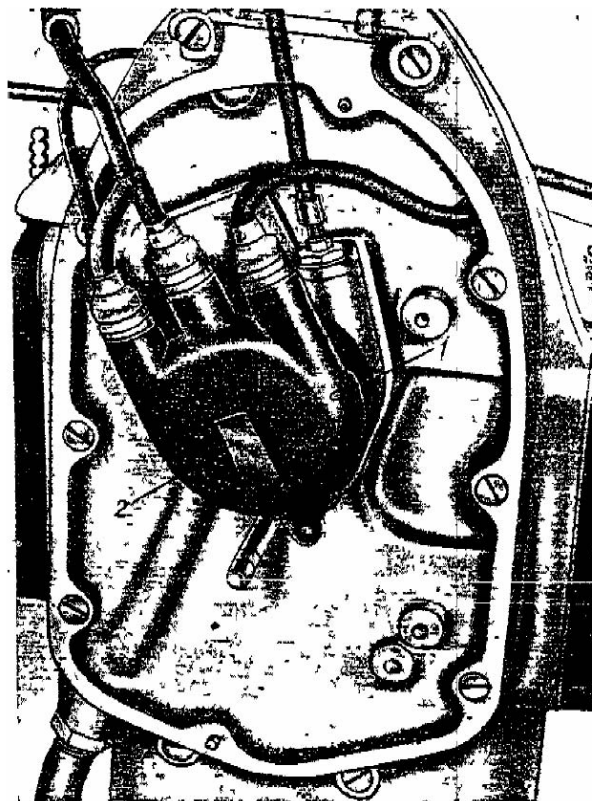
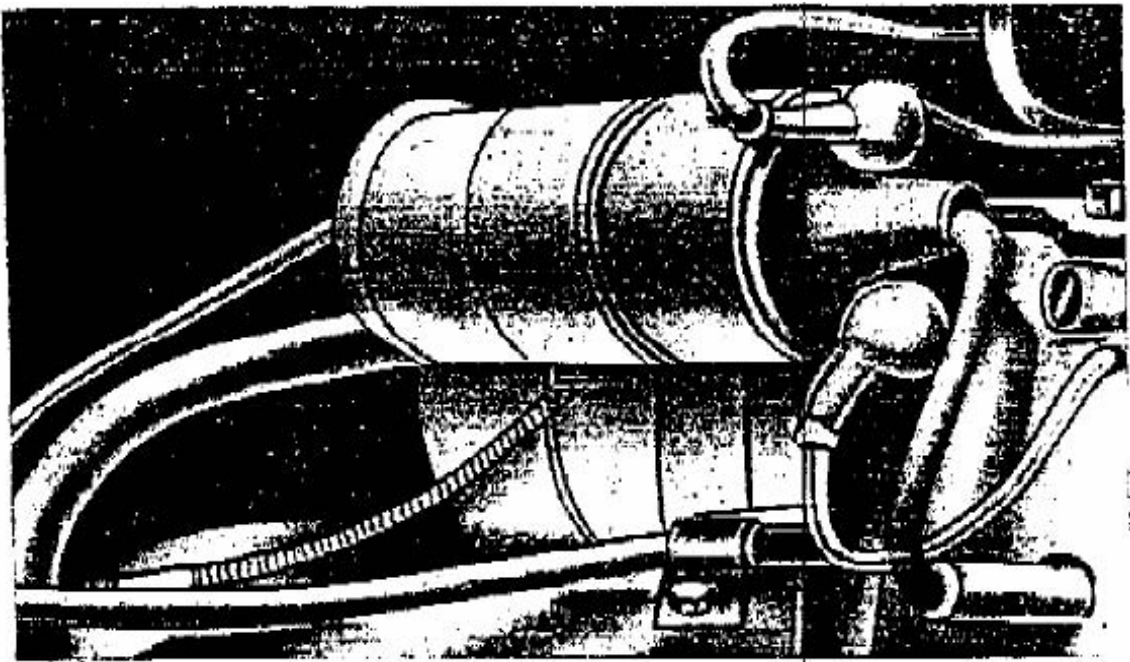
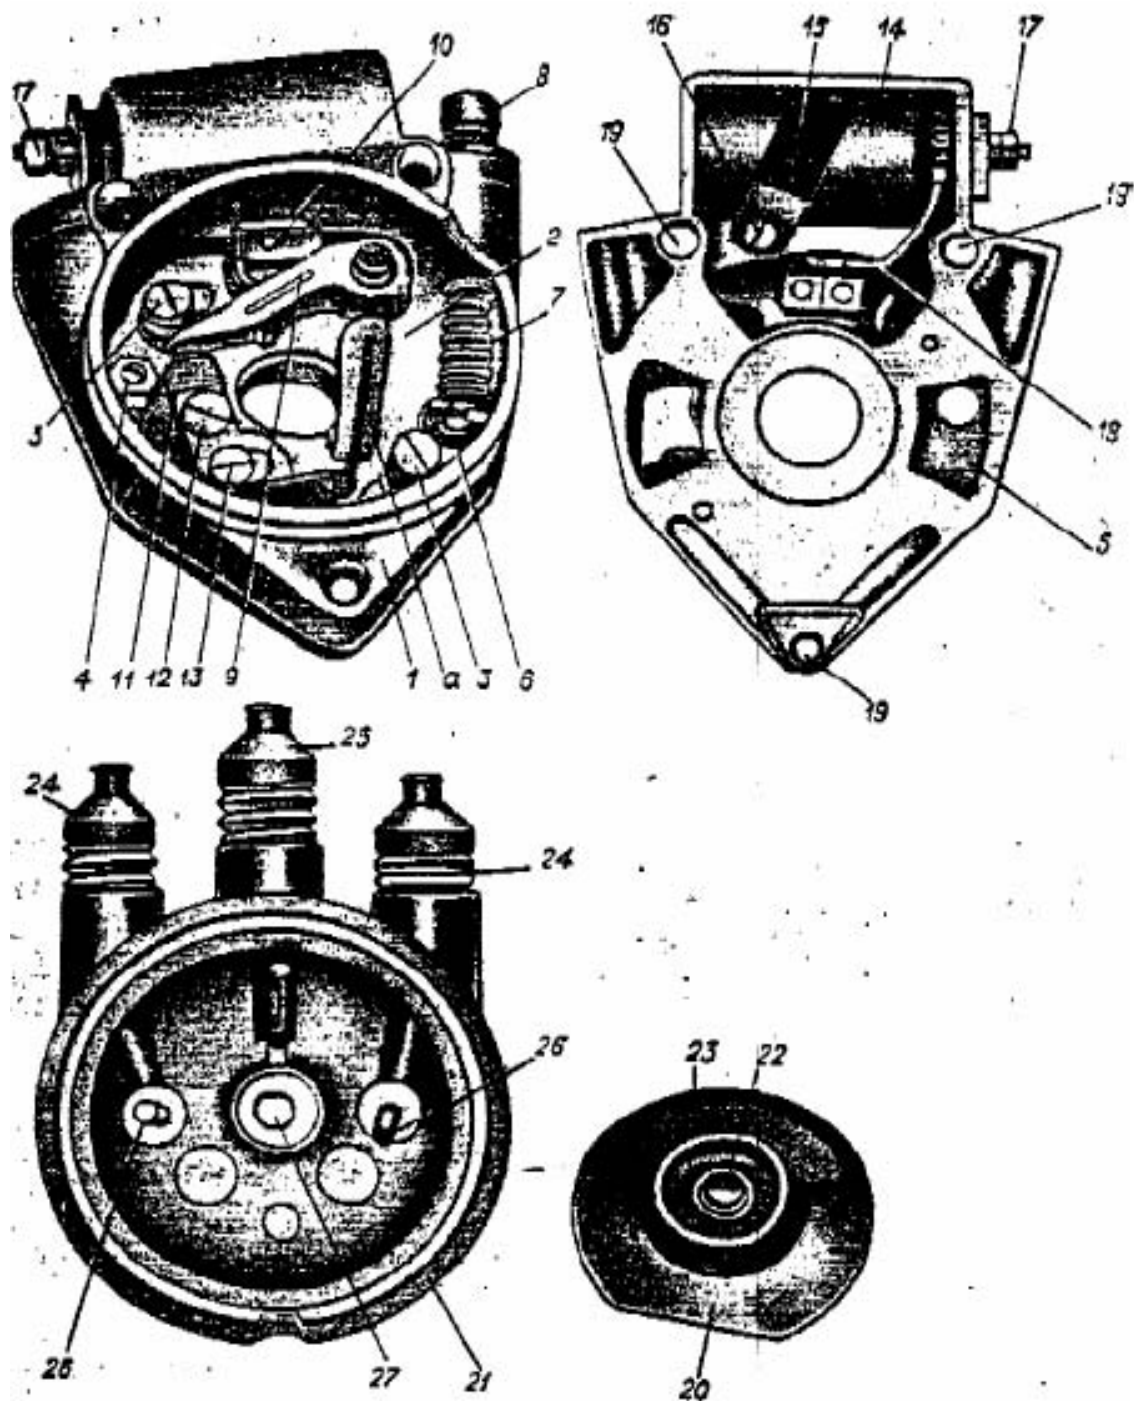

Fig 28
Fig 29
Fig 30
The situation of the distributor is shown in fig. 28 and the ignition coil in fig. 29. The distributor Pm-05 (fig. 30) consists of the cover of the distributor, the circuit breaker disk and the circuit breaker.
The distance between the breaker points during full interruption should be 0.4-0.5 mm. For adjustment one must loosen the locking screw which holds the anvil (12, fig. 30), and by turning the screw with the eccentric cam head (13) tighten or widen the gap. After retightening the locking the screw (12) the distance between the contacts should be examined again.